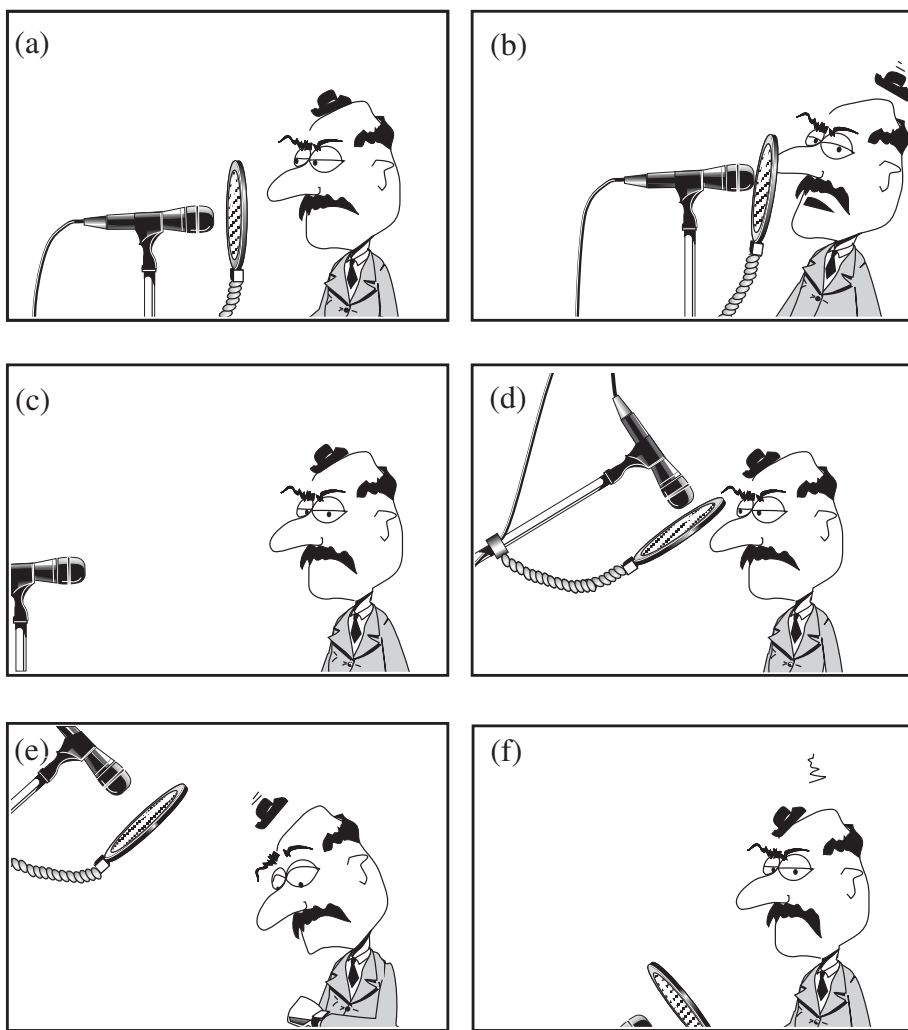

FIGURE 7.1
- **Patience is a virtue.** Take a few extra minutes to set up a few microphones and placements to determine which works best with the song and the singer's particular style. Figure 7.1 shows six common methods of placing the vocal microphones: